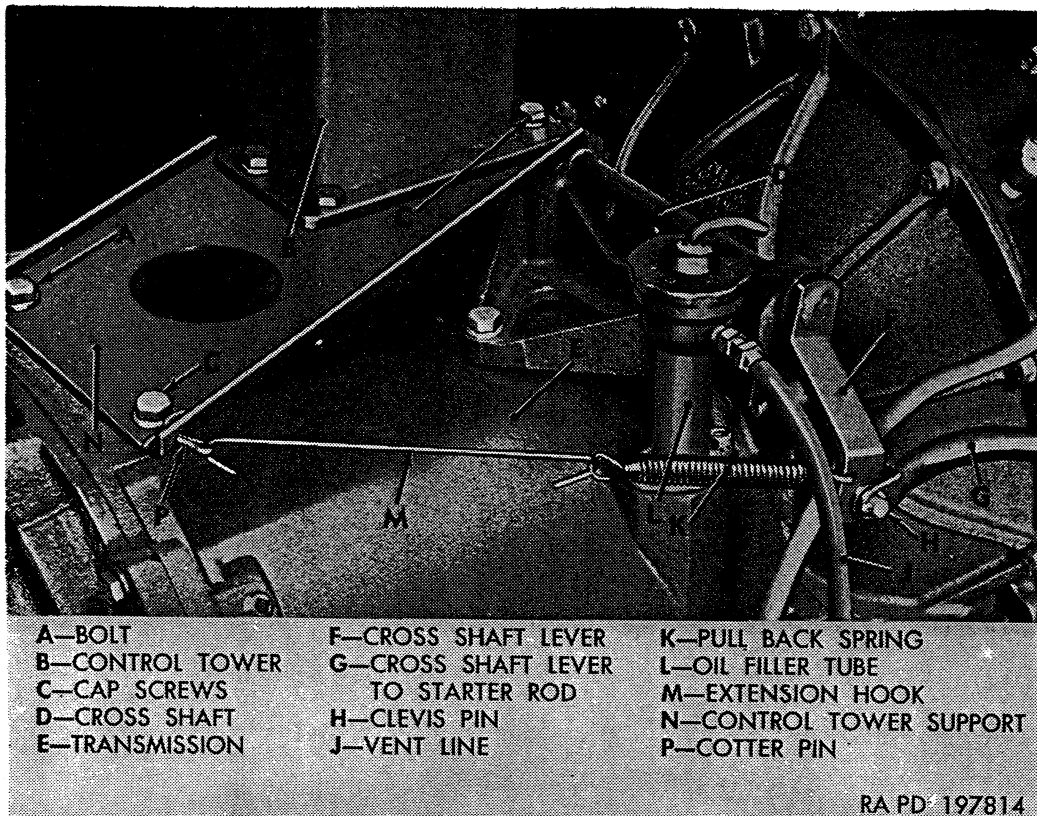

Figure 200. Control tower disconnect points.
- (c) Disconnect transmission shift lever trunnion (F) from transmission shift lever (H) by removing safety nut (G) and washer.
- (d) Disconnect reduction unit control rod (L) from reduction unit idler lever (M) by removing cotter pin and clevis pin.
- (e) Disconnect transmission vent line (J, fig. 200) from oil filler tube by unscrewing fitting.
- (f) Unhook cross shaft lever pull back spring from extension hook; then disengage extension hook from cotter pin on control tower support. Remove pull back spring (K, fig. 200) from cross shaft lever (F, fig. 200).
- (g) Remove three cap screws, one bolt, and four lockwashers attaching shift control tower and support to transmission (E, fig. 200); then remove control tower and support from transmission.
- (2) *Installation.*
- (a) Position transmission control tower and support (B and N, fig. 200) on transmission and attach with two  $\frac{7}{16}$ -14 x 1 cap screws, one  $\frac{3}{8}$ -16 x  $4\frac{1}{4}$  cap screw, one  $\frac{3}{8}$ -16 x  $5\frac{3}{4}$  bolt, two  $\frac{7}{16}$ -inch lockwashers, and two  $\frac{3}{8}$ -inch lockwashers.
- (b) Engage cross shaft lever pull back spring (K, fig. 200) with cross shaft lever (F, fig. 200). Engage extension hook with cotter pin on control tower support; then stretch spring and engage spring end with end of extension hook (M, fig. 200).
- (c) Attach transmission vent line (J, fig. 200) to oil filler tube (L, fig. 200). Tighten fitting.
- (5) *Raise power plant from rear support.* Using a suitable floor jack, raise transmission just enough to relieve load from rear support cross member. Place blocking under engine to support power plant while removing transmission from engine.
- (6) *Disconnect transfer-to-front-axle propeller shaft.* Remove four bolts and nuts attaching front propeller shaft universal joint to transfer driving flange; then lower rear end of propeller shaft to floor.
- (7) *Remove transmission rear support cross member.* Remove four bolts and locknuts attaching transmission rear support cross member to support brackets; then remove transmission rear support.
- (8) *Disconnect starter control.* Remove cross-shaft-lever-to-starter rod from cross shaft lever by removing cotter pin and clevis pin (H, fig. 200).
- (9) *Drain coolant and disconnect cooler lines.*